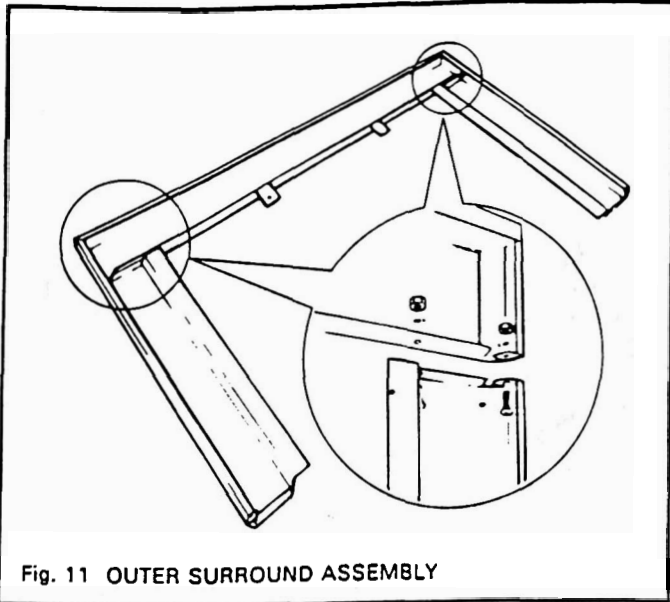

Fig. 11 OUTER SURROUND ASSEMBLY
- 2.2.4.1. Assemble the two outer surround sides to the top cross piece using the four nuts, screws and washers provided (see fig. 11).